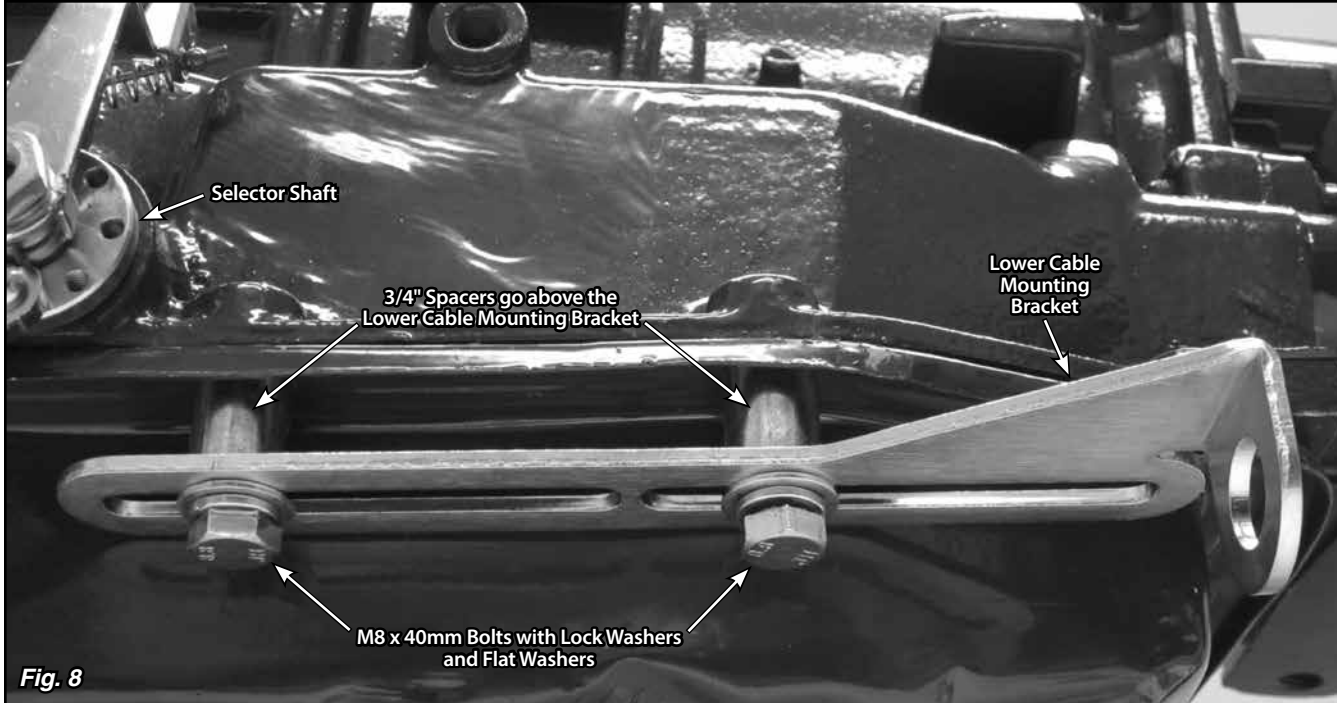

Fig. 8
Step 11: Remove the two pan bolts directly behind the selector shaft. Install the lower cable mounting bracket on the driver side of the transmission pan, using the provided M8 x 40mm bolts, lock washers, flat washers, and 3/4" spacers. The spacers go in between the bracket and the transmission pan. Do not tighten the bolts yet. Fig. 8